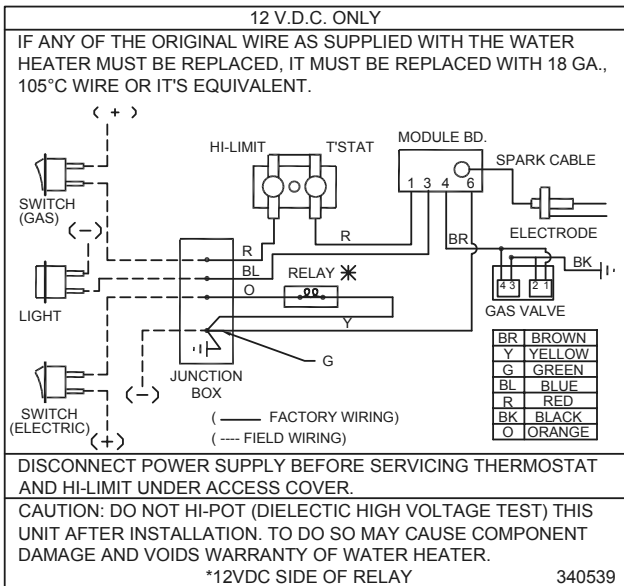

Figure 6
C. Make the 12 Volt D.C. electrical connections following the wiring diagram illustrated in Figure 6.